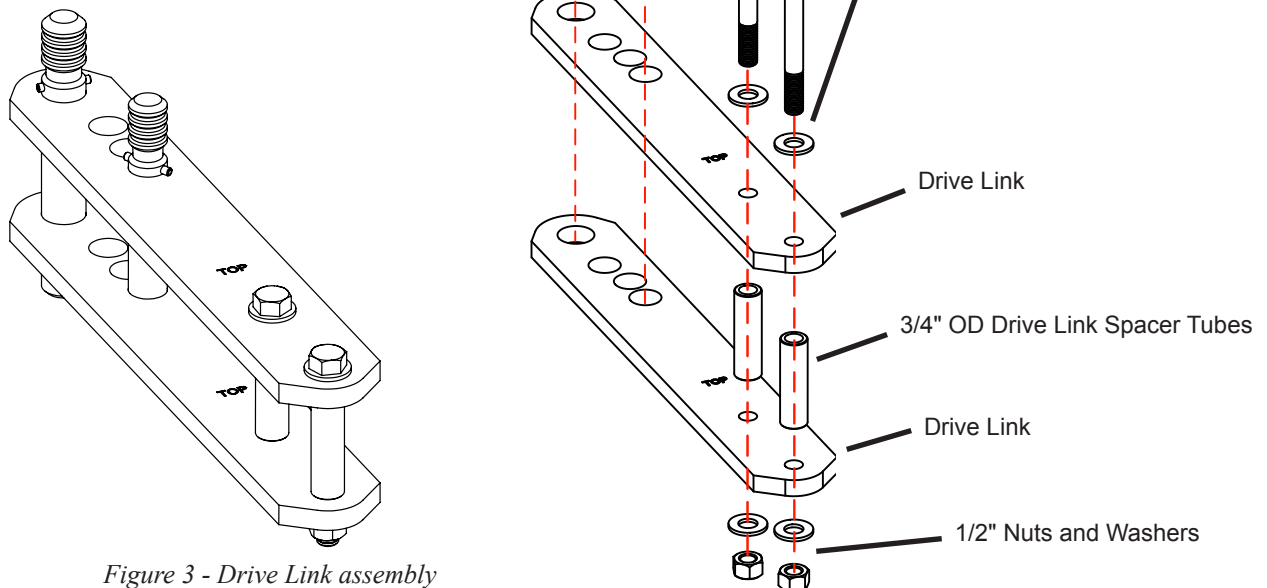

Figure 3 - Drive Link assembly
3) The two Drive Links are assembled next. Using the two 3/4" OD Drive Link Spacer Tubes, two 1/2" bolts, four 1/2" washers and two 1/2" nuts, assemble the two Drive Links as shown in figure 3. The word 'TOP' must be face up on both links. This is very important because the three 7/8" drive holes are offset to the right. Hand tighten only. Insert the two pins into their respective holes to help alignment. Lay the assembly on its side to further help alignment and wrench tighten securely.